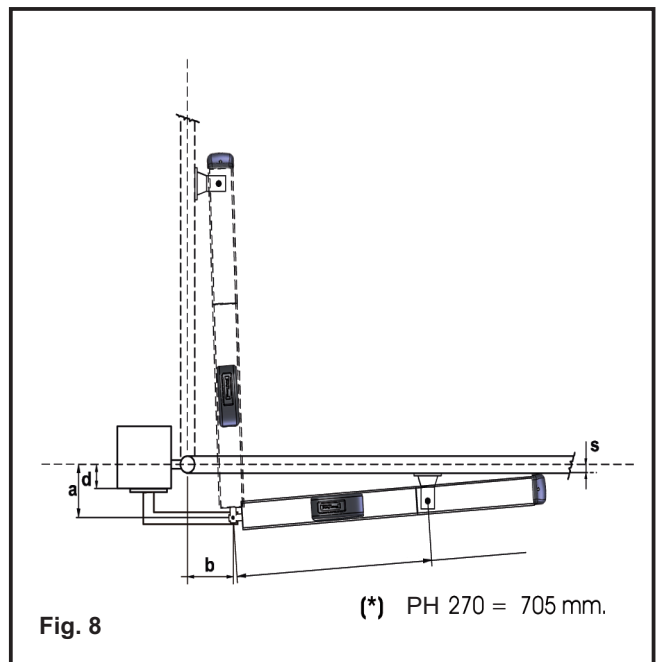

Fig. 8
**3.3. SPECIAL INSTALLING FOR HYDRAULIC OPERATOR WITH OPENING GATE OUT (Fig. 8)**